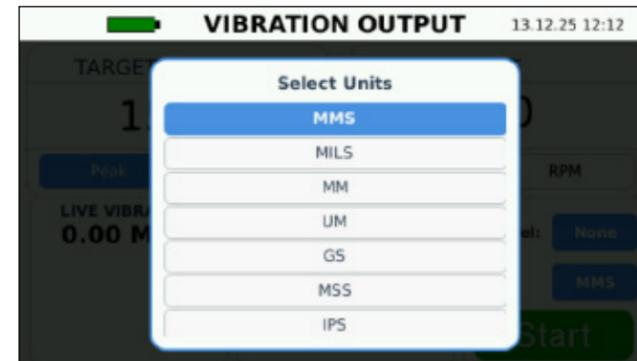

Figure 11
4. Select the **Units** button to set the vibration units to GS, MSS, IPS, MMS, MILS, MM, or UM (Figure 11). The vibration units will be shown for both the live vibration and sensitivity (if the channel is selected).